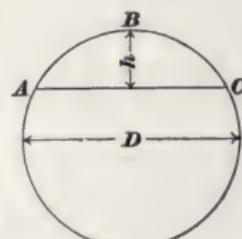

FIG. 49.
**83.** To find the area of a segment of a circle (a **segment** of a circle is the area included between a chord and its arc; for example, the area  $A B C$ , Fig. 49) when its chord and height are given. There is no exact method, except by applying principles of trigonometry. The following rule gives results that are exact enough for practical purposes.
The rule, expressed as a formula, is as follows, where  $D$  = the diameter of the circle and  $h$  = the height of the segment (see Fig. 49):
NOTE.—Had the chord  $A C$ , Fig. 49, been given instead of the diameter, the diameter would have been found as explained in Art. 75.